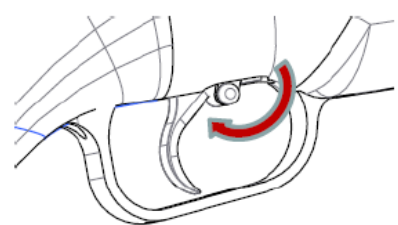

Fig. 2
- Before loading your airgun, make sure the safety is activated (Fig. 2).